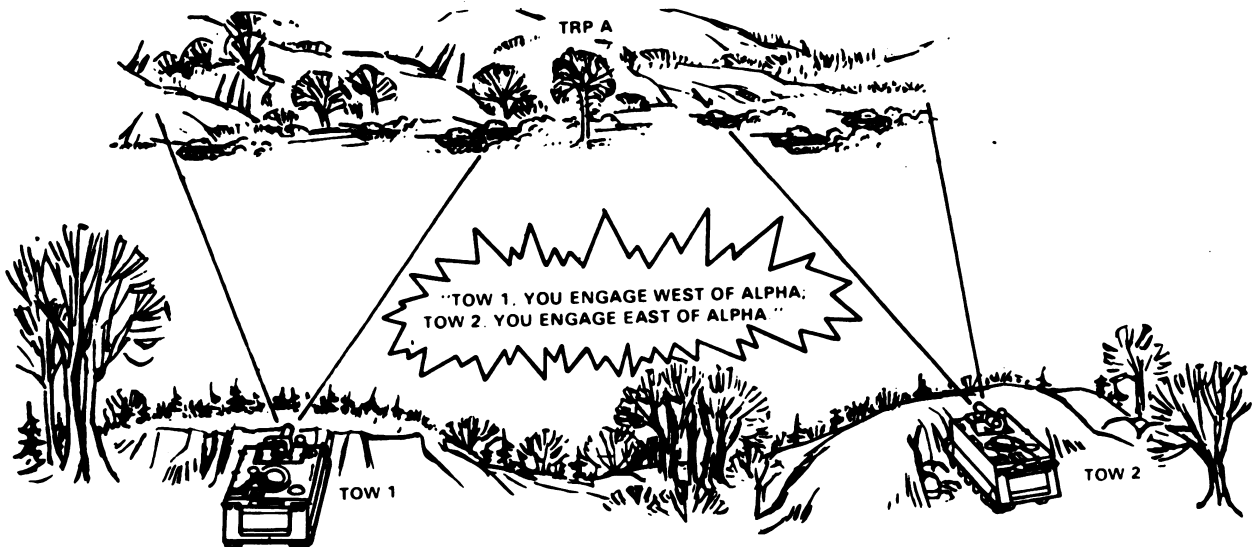

Figure 4
3. Target reference points. A TRP is a prominent natural or manmade feature, such as a road intersection, hill, or bridge, designated by the commander to rapidly designate targets and control direct fires. TRPs are normally designated by a letter or number (or a combination) and are recorded on range cards for easy reference (fig. 4).